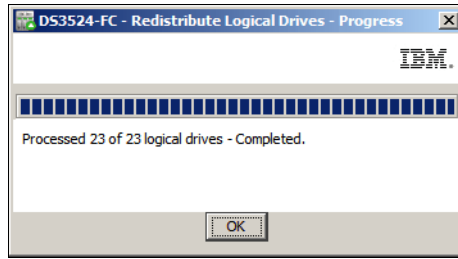

Figure 14-142 Redistribute Logical Drives - Progress
3. The progress of the logical drive redistribution will be displayed. The window shown in Figure 14-142 on page 426 will be displayed when all the logical drives have been redistributed to their preferred owners.